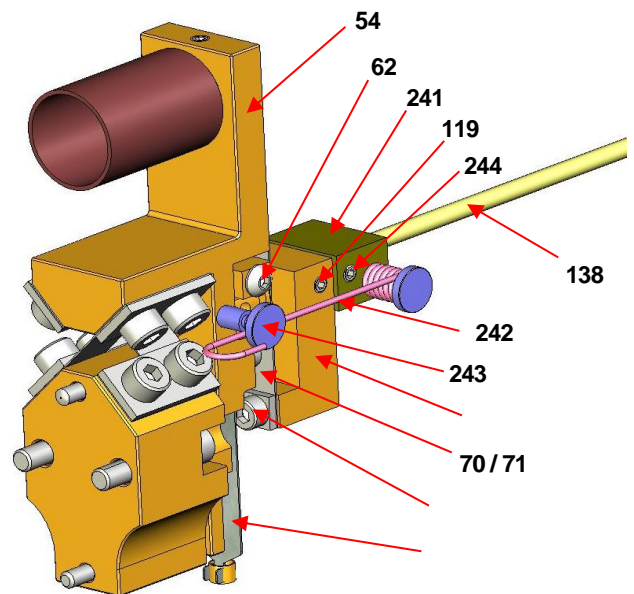

Figure 20
- e. Position the sub-assembly vertically on the rod so that the distance between the coupling flexure (71) and the torque tube flange is 59.5 mm  $\pm$ 0.5 (see figure 20). Firmly tighten this sub-assembly to the rod, using the two lateral screws (119).
- f. Put the bias at 1 mm from the coupling S/A, align the bias S/A with the coupling S/A and tighten it on the rod with the two lateral screws (244).